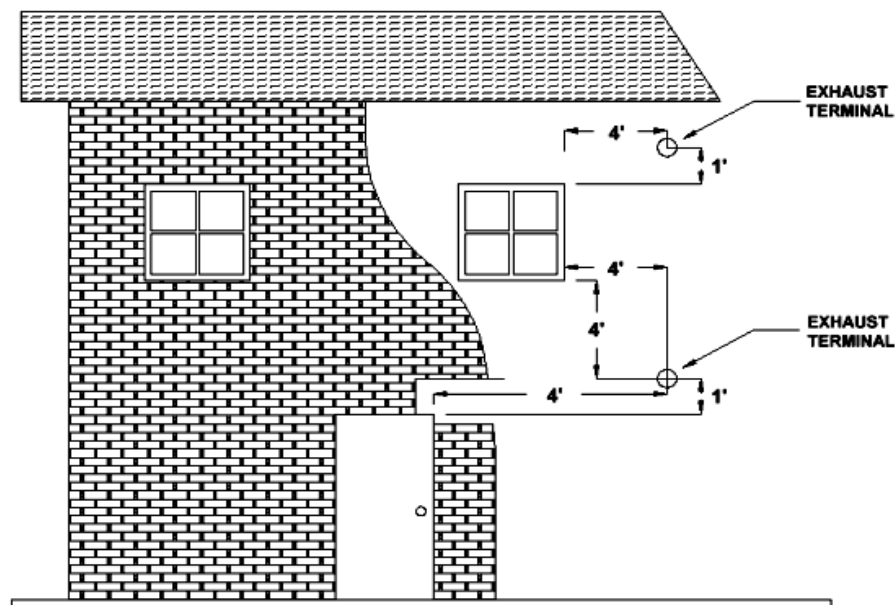

Figure 4
- a. **Without** Outside Air connected to the unit. For These types of installations please refer to the dimensions listed below in figure 4.